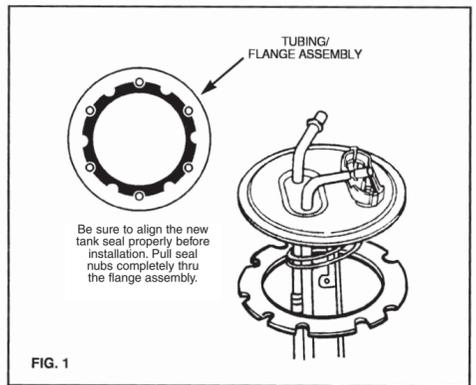

FIG. 1
- Remove the old tank seal from the pump bracket flange. Carefully slide the seal down over the pump, and level sender assembly. Slide the new adhesive style tank seal onto the pump bracket assembly. Be sure to orient the seal properly before sticking it to the flange. Once proper orientation has been determined it is best to make a locating mark on the flange and on the seal. Then the protective paper can be removed from the adhesive side of the seal and it can be properly affixed to the pump bracket flange. (See Fig. 1)